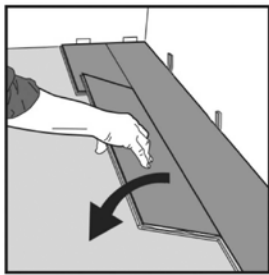

Fig. 5
- Install the second row by inserting the tongue edge of the planks into the groove edges of the first row at a 45° angle and then folding the plank down until it lays flat on the subfloor (Fig. 5). Ensure that the edges of all boards meet tightly by applying equal pressure while rotating the board down. You cannot force the boards together. If the boards are not lying flat, they were not aligned correctly during engagement. Disengage the planks by lifting the entire row and sliding the end joints apart (Fig. 6 & 7). Try again until all seams are tight.